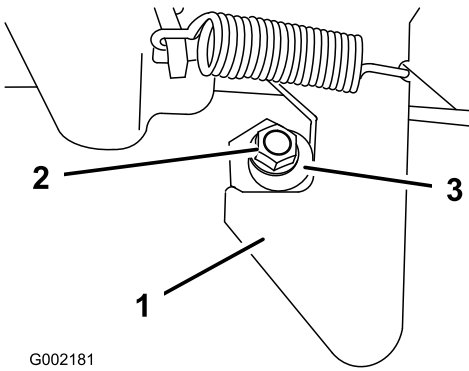

Figure 18
1. Loosen the nut on the end of the latch post (Figure 18).
2. Turn the latch post clockwise until it is snug against the latch and then tighten the nut (Figure 18).